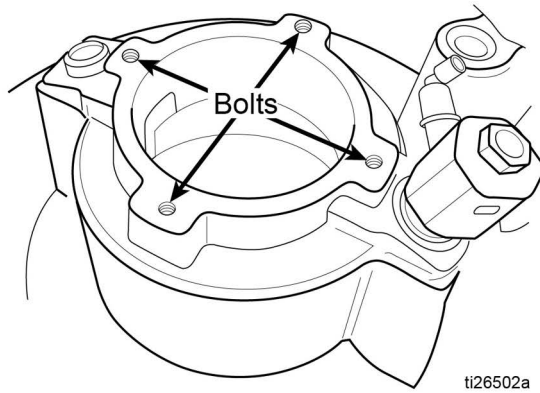

FIG. 13
3. Lower pump onto platen and align so the bolts from the pump can be attached to the platen (FIG. 13).